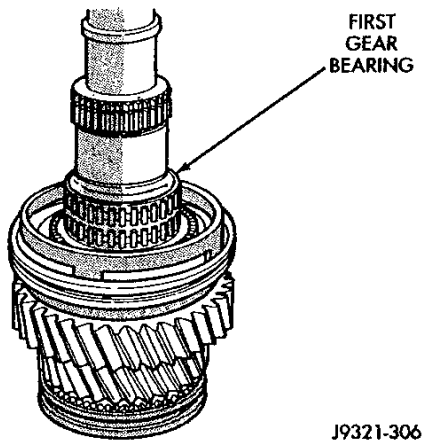

Fig. 43 First Gear Bearing Installation
(12) Install first gear bearing on mainshaft (Fig. 43).